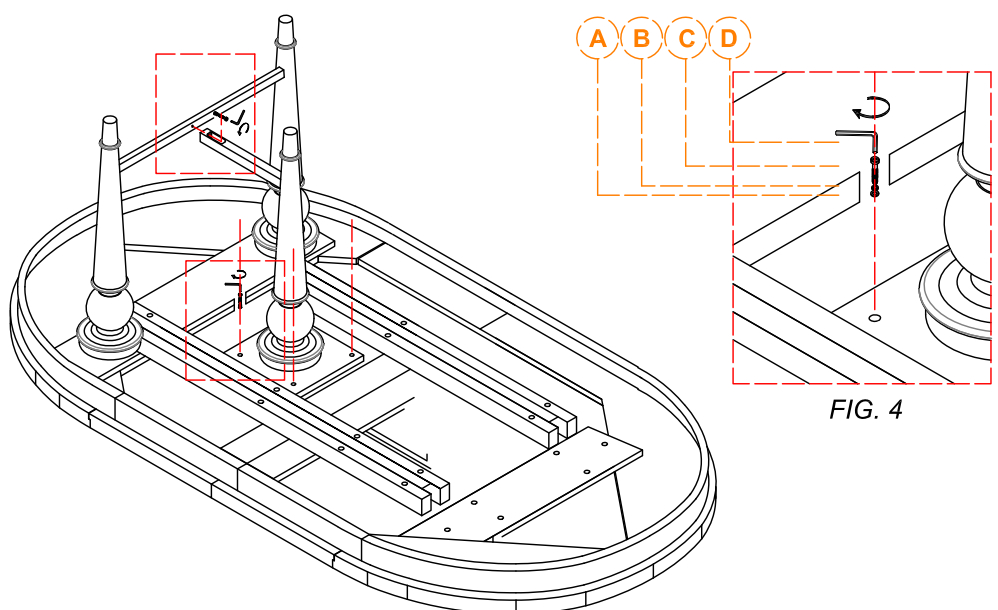

FIG. 4
5. Attach the Center Legs (4) with Top panel (1) using the JCBC Bolt M8 x 30 mm (C) with Flat Washer M8 (A) and Spring Washer M8 (B) Securely tighten with Allen Key 5 (D) as provided (FIG.4);